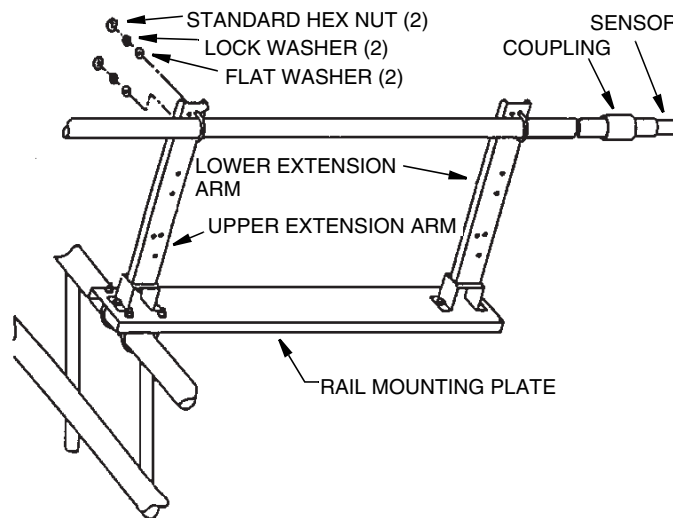
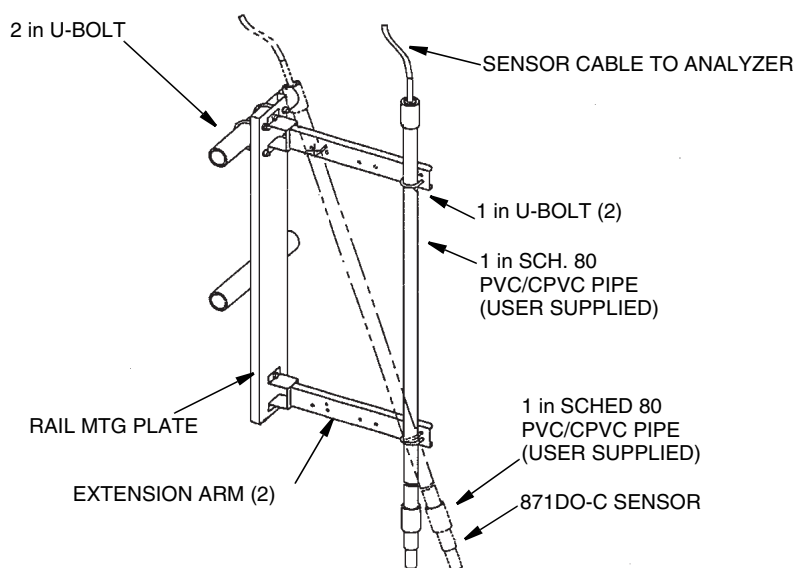

Figure 7. Attachment of Pipe to Upper Extension Arm
Figure 8. Completed Assembly
- Lift extension pipe to desired position beside upper extension arm. Fasten to extension arm loosely using 1-in U-bolt and hardware provided (flat washer, split lockwasher, standard hex nut). Fasten loosely to allow for insertion depth adjustment. See Figure 7.
9. Tighten upper rail U-bolt clamps (2).
11. Tighten standard nuts on upper and lower U-bolt clamps to affix extension pipe at desired position. See Figure 8.